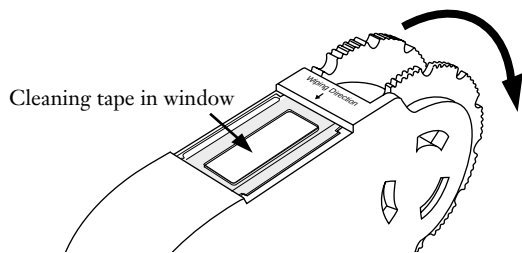

Figure 2
3.1 Advance the cleaning cassette's front-reel enough to access a fresh area of the cleaning tape in the cassette's cleaning window (Figure 2).